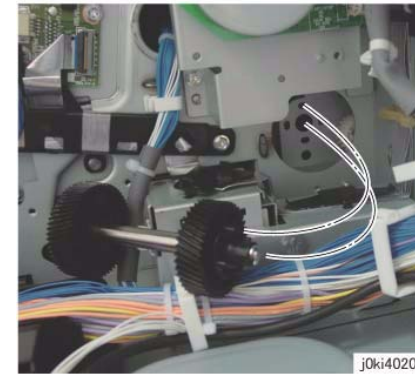

Figure 4 Install the gear and shaft
2. When installing the gear and shaft, align the bosses (x4) of the bearing to the installation holes. (Figure 4)